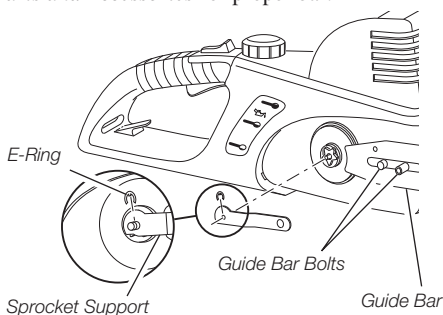

Figure 20 - Removing E-Ring and Sprocket Support
3. Remove E-ring and sprocket support (see Figure 20).
1. Place guide bar onto guide bar bolts (see Figure 20, page 17).
2. Place sprocket support over guide bar and secure in place with E-ring (see Figure 20, page 17).